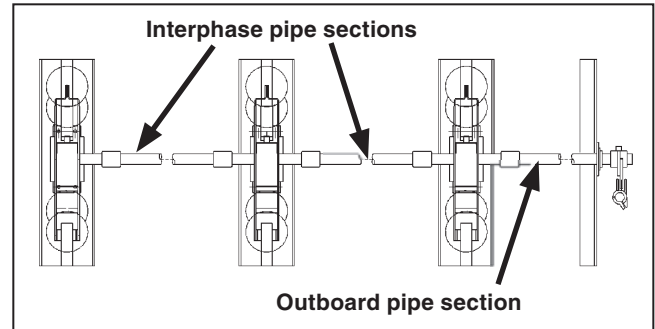

Figure 9. Pipe connecting switch poles.
- STEP 8.** Install the interphase and, if applicable, the outboard pipe sections as shown on the erection drawing. See Figure 9. Follow the directions in the “Installing Pipe Couplings with Piercing Set Screws” section on page 12.